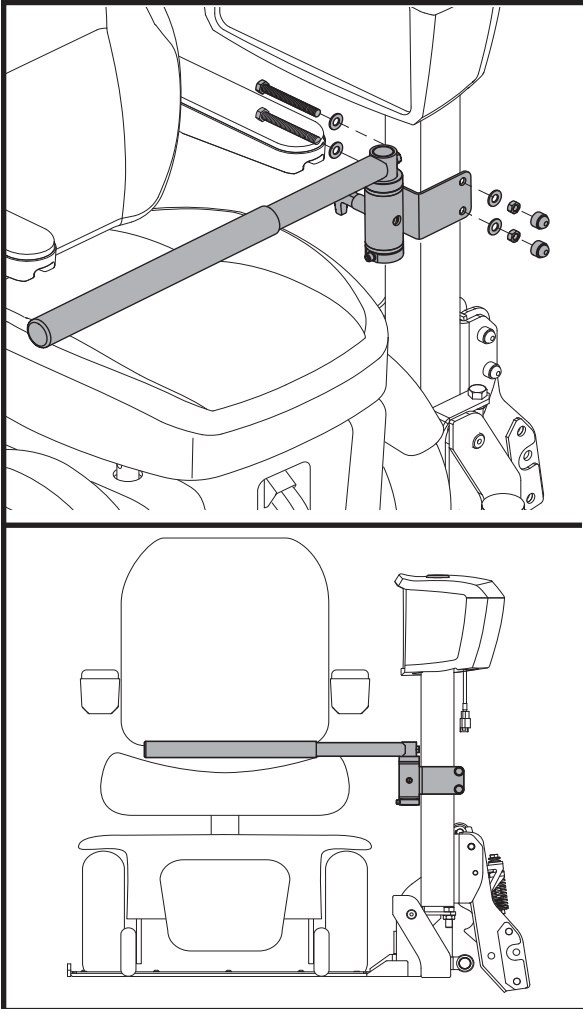

Figure 6. Hold-down Bar Installation
3. Place the Power Chair hold-down bar on the seat into the cushion. Once secured, attach to mast with supplied hardware. **See figure 6.**